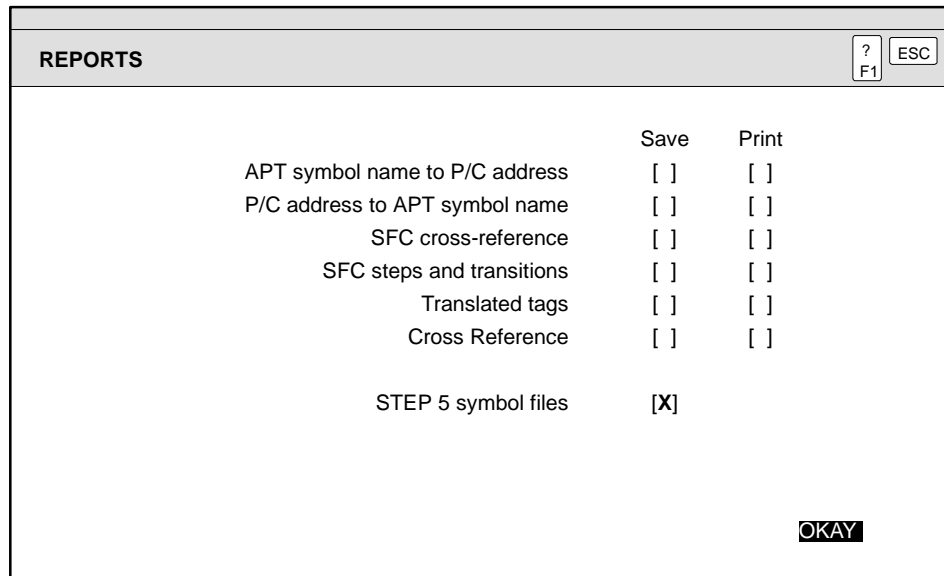

Figure 8-14 Creating STEP 5 Comments and Synonyms
4. Place an **X** between the brackets (as shown in Figure 8-14).
Figure 8-14 gives an example of the Reports screen where you select the STEP 5 Comments and Synonyms screen.